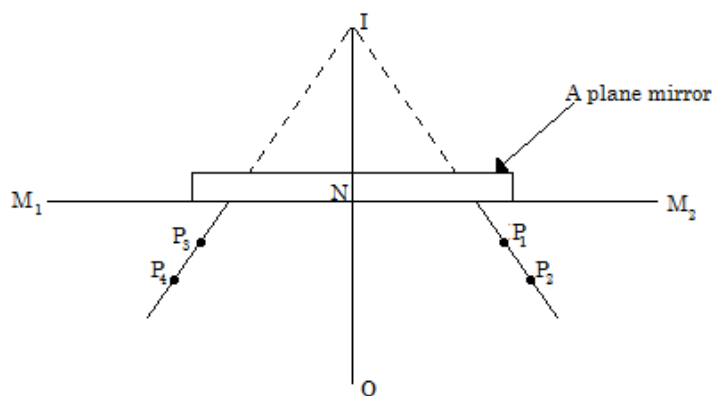

Figure 2
- (a) On the plain paper provided, draw a line 13 cm from the top of the paper and call it M_1M_2 . Pin your paper on the board provided and place the reflecting surface of the mirror along the line M_1M_2 as seen in Figure 2.
- (c) Remove pins P_1 and P_2 , using other pins, place pins P_3 and P_4 so as to appear in a straight line with the image of object O in the other side (see Figure 2).